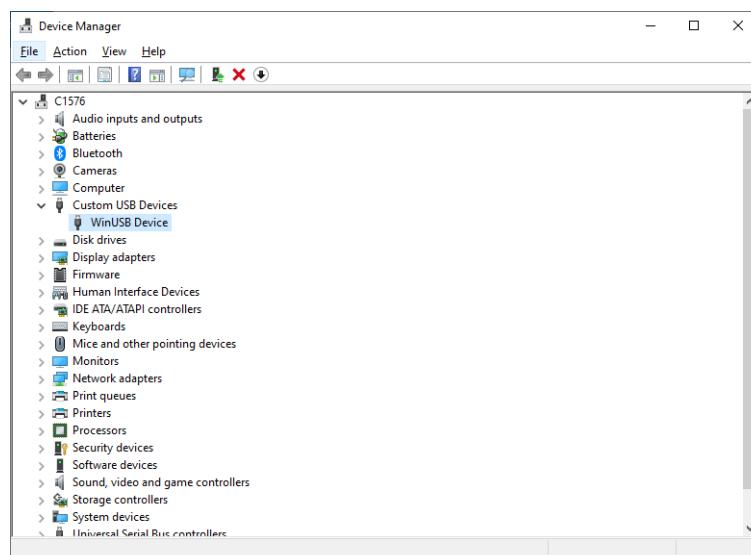

Fig. 10.13: USB device correctly recognized.
7. The device is recognized by the operating system and listed in the "Device Manager" window among "Custom USB Devices" (see Fig. 10.13).